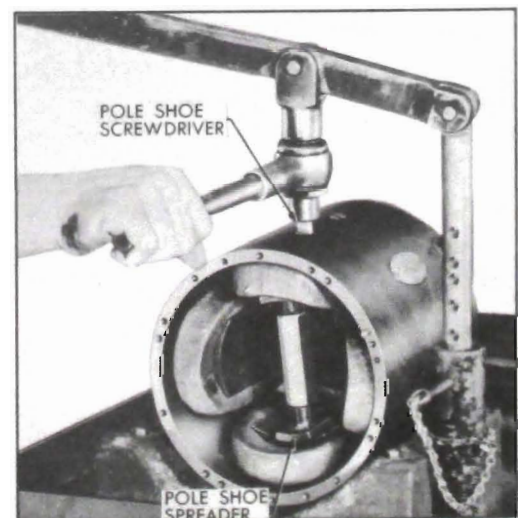

Figure 10-56—Using Pole Shoe Spreader and Screwdriver
6. If field coils are to be removed from field frame, a pole shoe spreader and pole shoe screwdriver should be used to avoid distortion of frame. See figure 10-56.
Assemble cranking motor by reversing disassembly procedure. If field coils were removed, use pole shoe spreader and pole shoe screwdriver to install them, to avoid distorting field frame and to insure proper tightening of pole shoe screws. See figure 10-56.